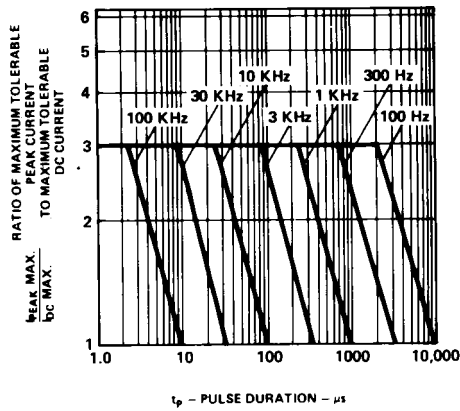

Figure 2. Maximum Tolerable Peak Current vs. Pulse Duration. (I_{DC} MAX as per MAX Ratings).
- See Figure 2 to establish pulsed operating conditions.